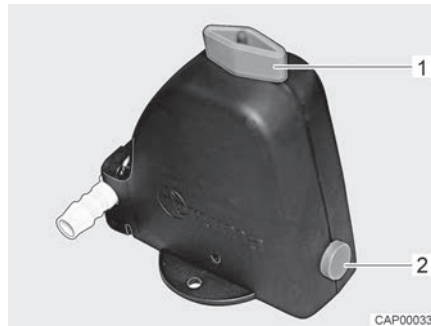
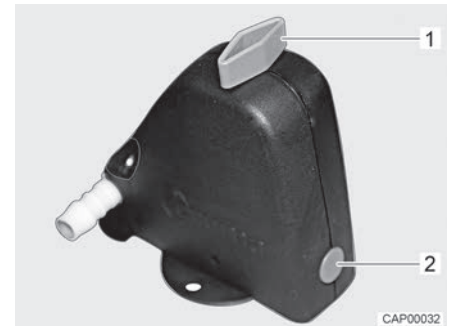

Fig. 141 Safety/drainage valve open
Fig. 142 Safety/drainage valve closed
- Close the safety/drainage valve. Turn the knob (Fig. 141,1) perpendicular to the safety/drainage valve and push the push button (Fig. 141,2) in. The closed safety/drainage valve is shown in Fig. 142. If the temperature is below 6 °C, the safety/drainage valve cannot be closed.